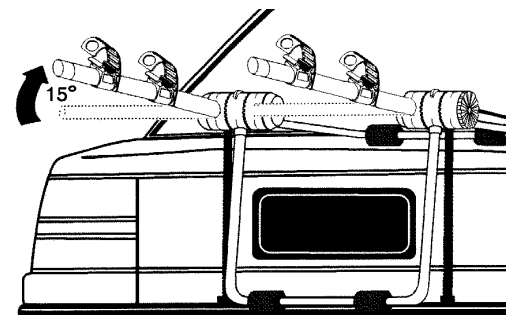

Figure 2
4. Hold the rack up to your vehicle. If the back of your vehicle has a glass window only the upper support leg may rest on glass. The lower leg must rest against a solid part of the back of the vehicle. Rotate the bike support arms such that they are at a 15-degree angle above horizontal (angled slightly upwards). See figure 2.